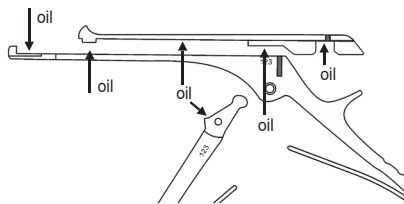

Fig. 7
- Apply the instrument oil selectively on the area that needs it (fig.7).